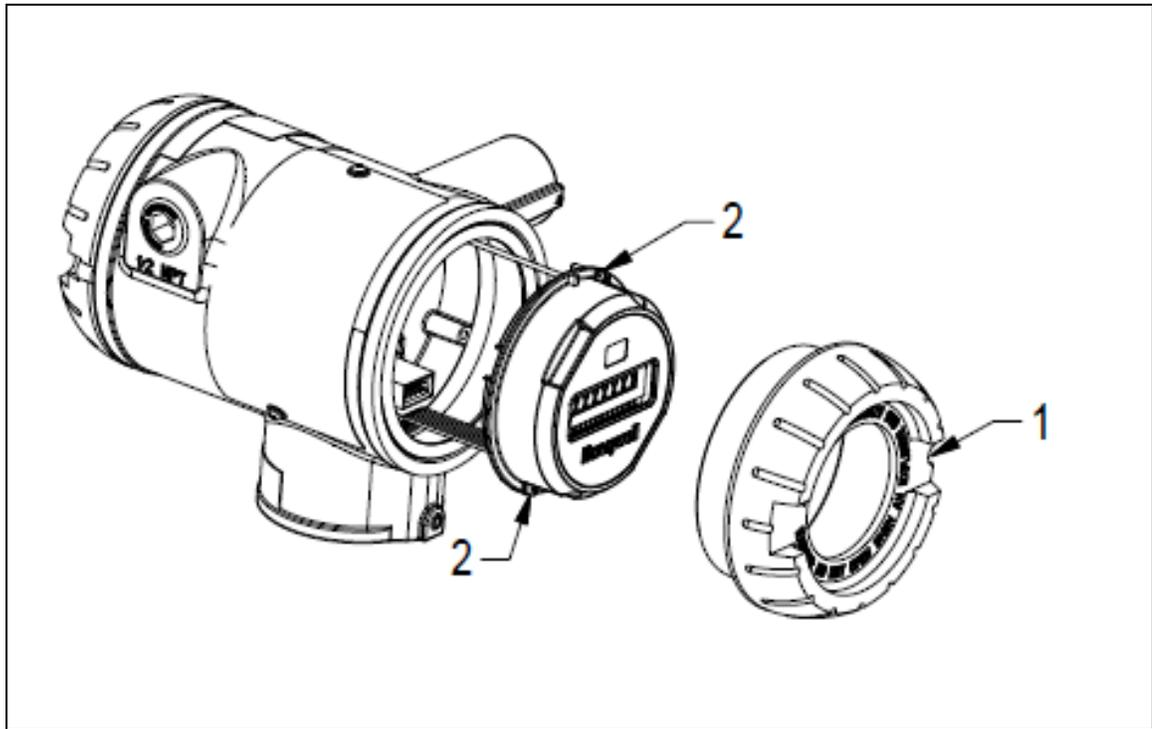

Figure 3-7: Display rotation
2	Loosen the M3 locking set screw on the display end-cap. See item 1 in Figure 3-7 . Unscrew and remove the end cap.
3	Loosen the two captive screws on the display/electronics module. See items 2 in Figure 3-7 .